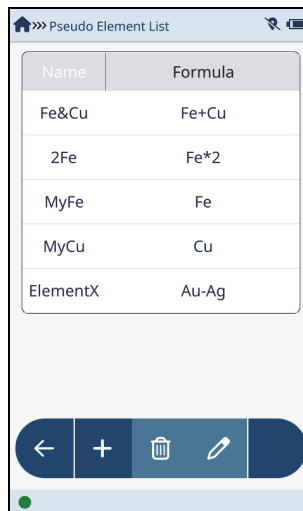

Figure 2-49 New pseudo element in list
- Dismiss the virtual keypad to see the new pseudo element added to the list (see Figure 2-49 on page 63).